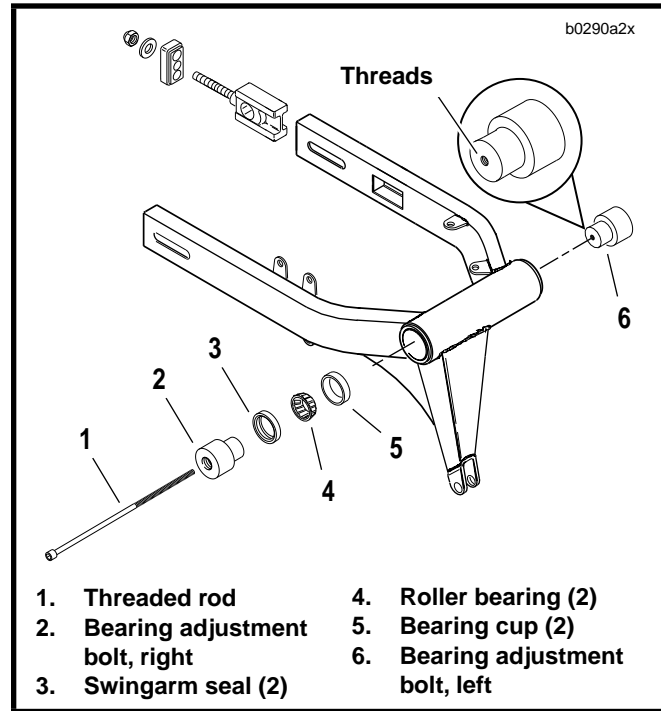

Figure 14. Swingarm
See Figure 14. The threaded rod (1) replaces a pivot shaft used on 1996 models. This new part changes the **SWINGARM, ASSEMBLY** and **SWINGARM, INSTALLATION** procedures in the 1996 manual.
1. See Figure 14. If necessary, draw **new** roller bearing cups (5) into swingarm using **BEARING INSTALLATION BOLT** (Part No. B-35316-5) and **STEERING HEAD BEARING RACE INSTALLER** (Part No. HD-39302).
See Figure 14. The left side bearing adjustment bolt (6) has additional internal threads.
5. Install both bearing adjustment bolts (2, 6) and the threaded rod (1). Insert the rod from the air cleaner side of the motorcycle.